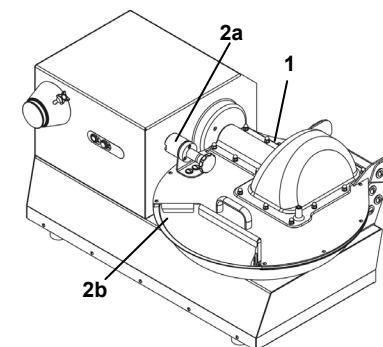

Fig. 1.8.1
The purpose of the lid is to prevent accidental contact of the hands with the tool. (Fig. 1.8.1)
2. Microswitches (Fig. 1.8.1):